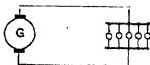

FIG. 50. The generator supplies 5 lamps in parallel.
**Prob. 36-2.** In Fig. 50, 7.5 amperes flow in the line, and the lamps have 104 volts across them.